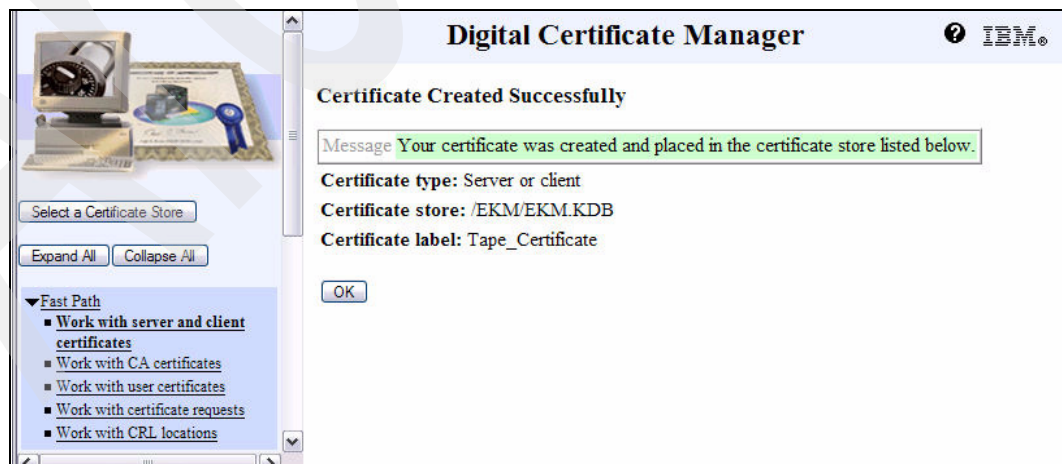

Figure 7-24 DCM Certificate Created Successfully screen
16. Successful creation of your self-signed certificate in your EKM keystore is indicated by the message, Your certificate was created and placed in the certificate store listed below, as shown in Figure 7-24.